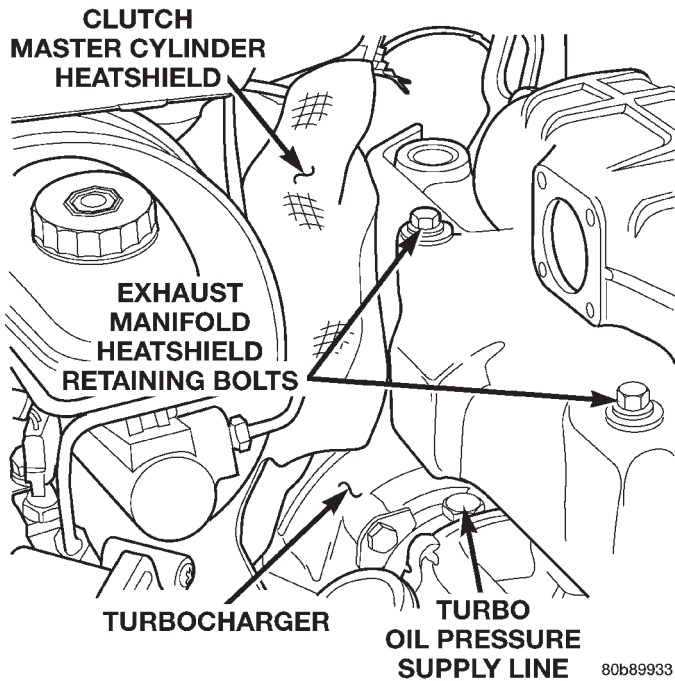

Fig. 16 2.5L Turbo Diesel — Heatshields
(15) Remove the (2) bolts holding the EGR tube to the EGR valve.
(16) Remove the intake manifold elbow and the EGR valve as an assembly.
(17) Remove the EGR tube from the exhaust manifold.
(18) Remove the (2) exhaust manifold heatshield retaining bolts and remove the heatshield (Fig. 16).
(19) Remove the oil pressure supply line from the turbocharger (Fig. 16).
(20) Remove the clutch master cylinder heatshield (Fig. 16).